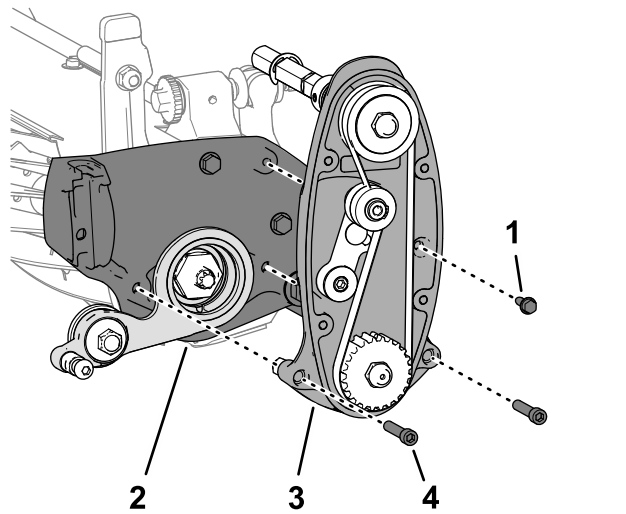

Figure 17
- 1. Align the idler assembly to the cutting unit as shown in Figure 17.
- 2. Assemble the idler assembly and reel drive to the cutting unit (Figure 17) with the 2 socket-head screws (5/16 x 1-1/2 inches) and locknuts (5/16 inch) that you removed in 3 Removing the Reel-Drive (page 5).
- 3. Assemble the reel drive to the cutting unit (Figure 17) with the flange-head screw (1/4 x 3/4 inch).